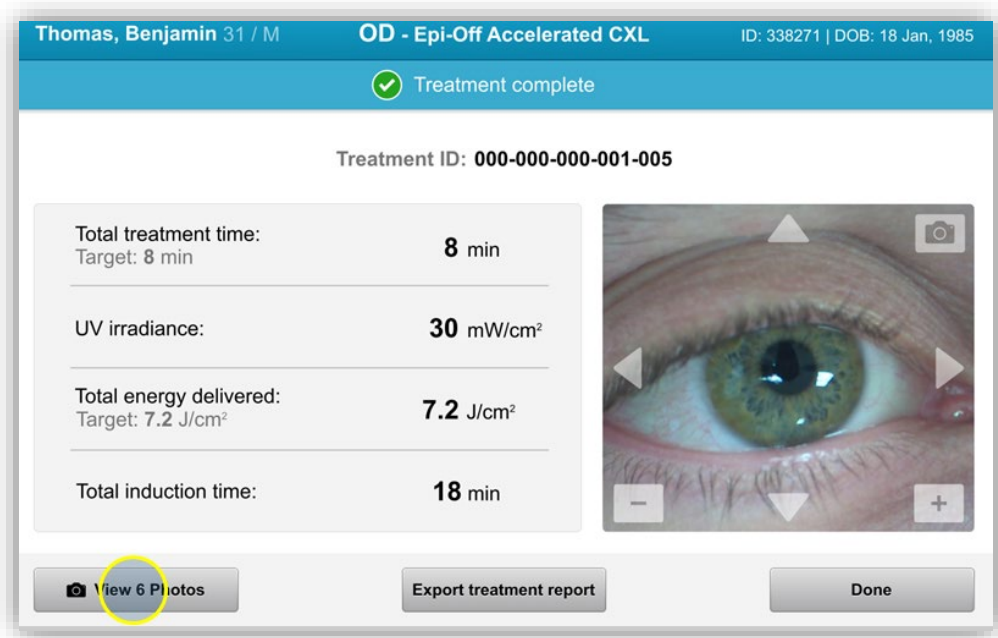

Figure 3-33. Treatment Complete Screen
- At the completion of a treatment, a summary of treatment parameters will be displayed, and the screen will show “Treatment complete” as shown in Figure 3-33.
- Select “View Photos” to enter the photo gallery as shown in Figure 3-33.